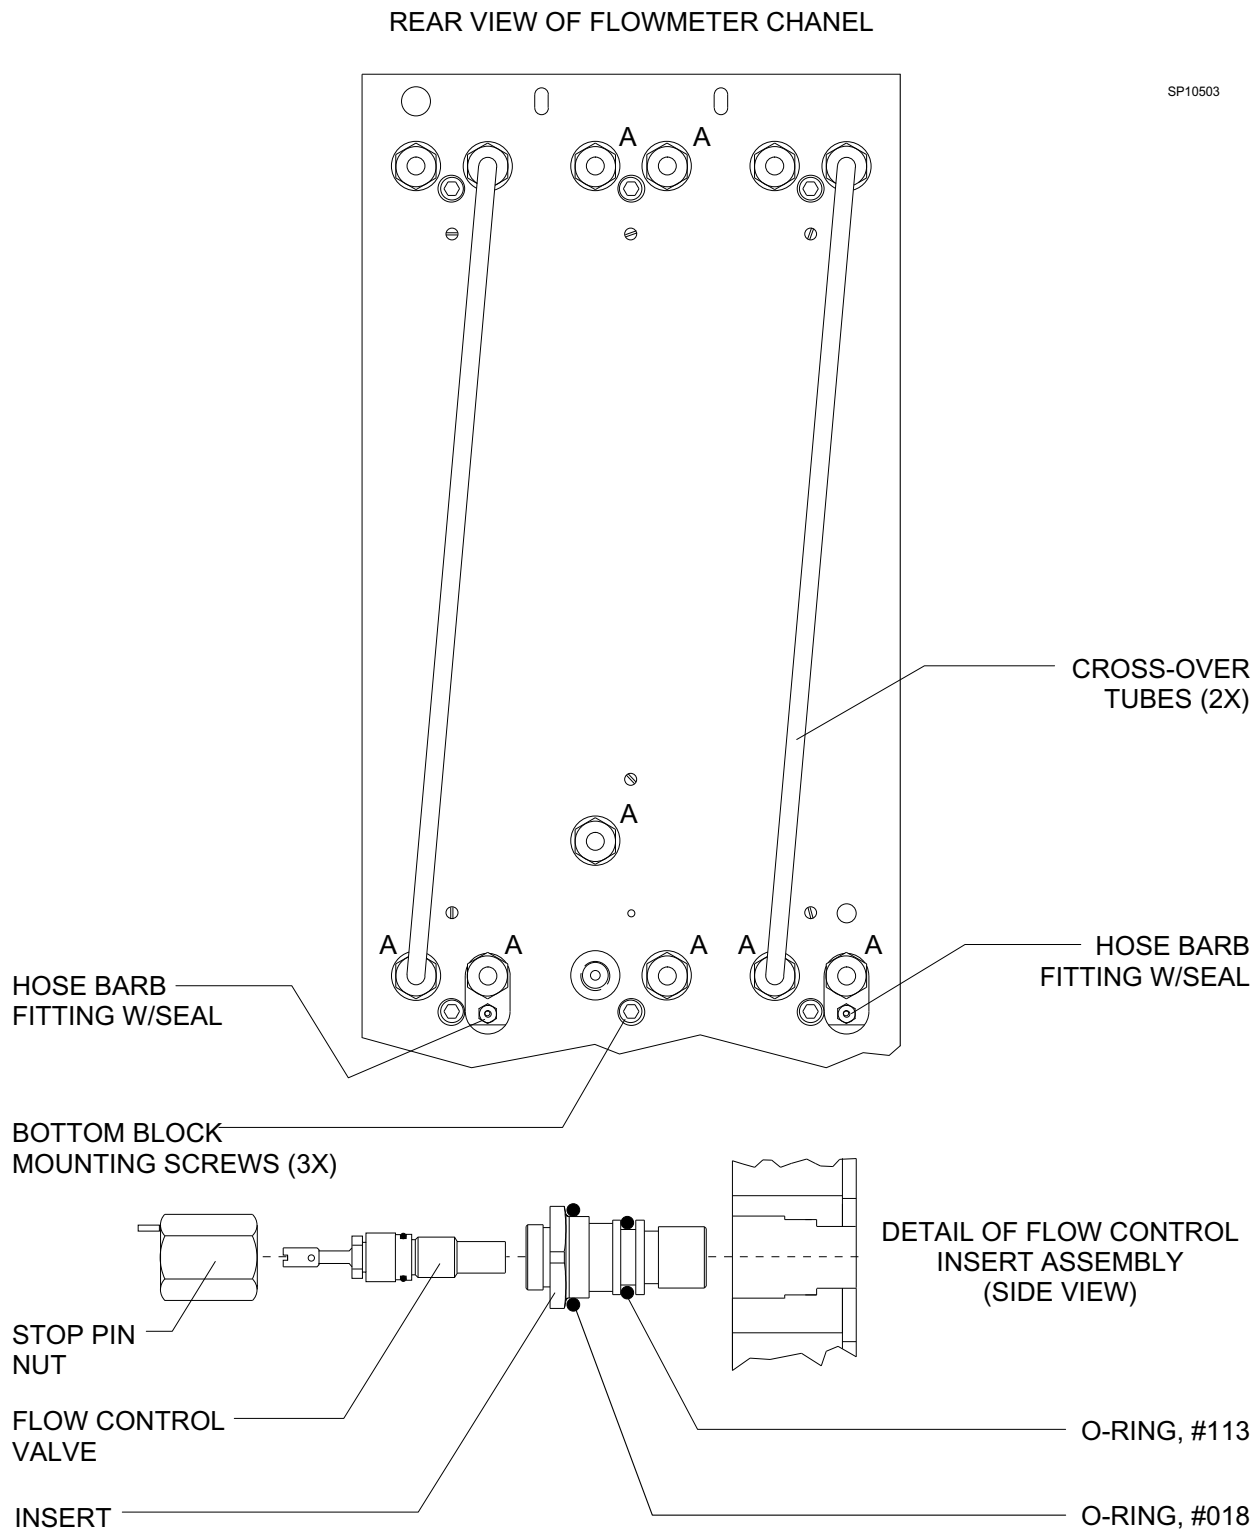

**Figure 2: PIPELINE AND CYLINDER GAUGE ASSEMBLY AND MOUNTING**
39. Apply a small amount of Loctite #271 (red) to the threads of a 1/16 in. hose barb (P/N 4111771) and pipeline pressure gauge (P/N 4110575-001). Assemble the fittings with coupling (P/N 4103668) as shown in Figure 2.
40. Place the pipeline gauge assemblies into the upper holes of the gauge channel and secure each gauge with two 10-32 kep nuts (P/N HW55002 x2). See Figure 2. Reuse the original hardware to secure the O2 and N2O gauges.